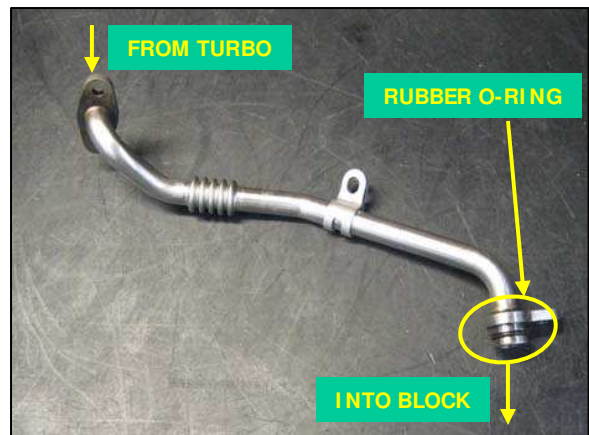

Fig. 22
25. Locate the turbocharger oil drain line. See *Fig. 22* (shown off of vehicle for clarity). It drains into the passenger side rear of engine block, below oil feed banjo bolt. Remove single bolt securing clamp to engine block. Remove bolt near middle of line securing it to engine block. Pull oil drain line out of block but leave attached to turbocharger. Ensure the rubber o-ring is present and did not break and fall into oil pan. Clamp bolt will be reused. New oil drain line and o-ring included in kit. Middle support bolt will not be reused (2 bolts, 10mm wrench/socket).